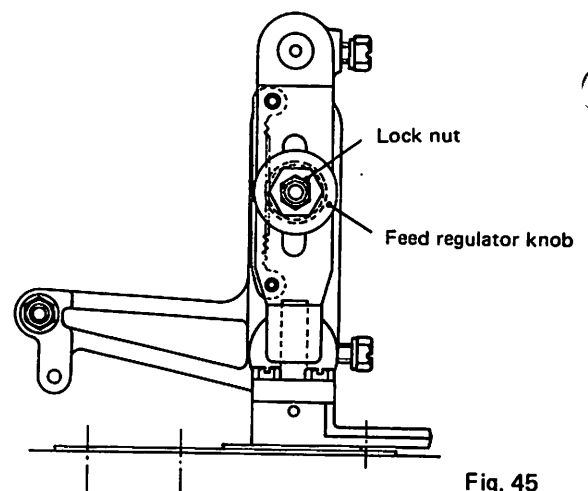

Fig. 45
1) Loosen the lock nut and adjust the feed regulator knob with a 14 mm (35/64") wrench. Turn the hexagonal stem of the regulator in the anticlockwise direction to increase the lengthwise feed pitch, and in the clockwise direction to decrease it. (Fig. 45)